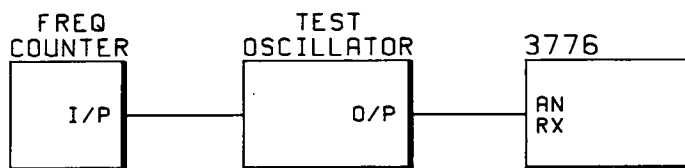

Figure 4-26 Analog Receiver Out of Band Rejection Set-up
1. Connect the equipment as shown in Figure 4-26.